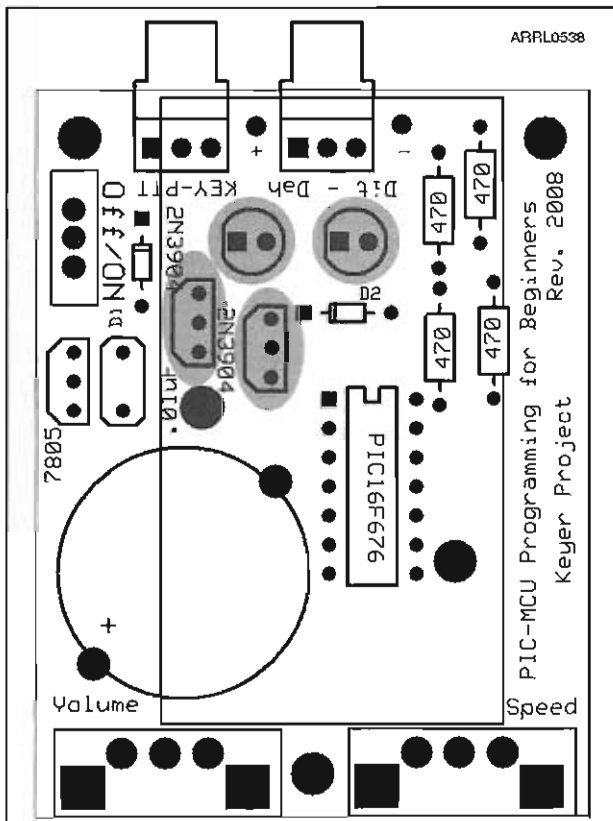

Figure C-5
b. Locate the two light emitting diodes (LEDs), one will be red, and one will be green. Note that one of the LED leads is longer than the other. The longer lead is the anode; the shorter is the cathode lead. Also note that there is a flat spot on the rim of the LED lens. The flat spot corresponds with the short, or cathode, lead of the LED. Find the LED component outlines on the circuit board and note that each LED component outline has a flat side also. When installing the LEDs, make sure the short lead, and the flat side of the LED body, are lined up with the component outline (the short lead goes in the hole with the square pad). You'll have to make a decision as to which LED color you want to indicate keying the transmitter and which LED color you want to indicate the Push to Talk (PTT.) I used red for keying and green for PTT. The keying LED is adjacent to the words "dit-dah" on the board; the PTT LED is adjacent to the words "KEY-PTT" on the board. Install the LEDs with the component bodies flush against the circuit board surface. Solder and clip the excess leads. See **Figure C-5**.